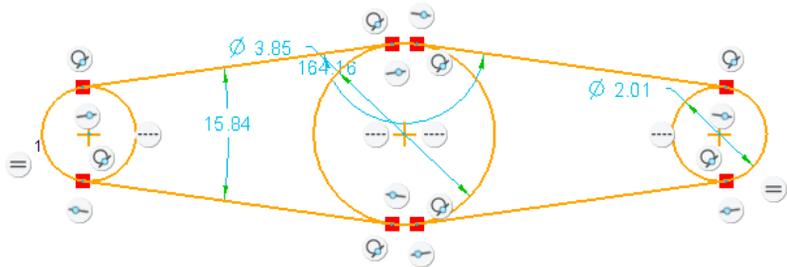

Figure 3-38 Tangent lines drawn on the circles
5. Similarly, using the **Line Tangent** tool, draw the other tangents through the bottom-most points of the left, middle, and right circles, as shown in Figure 3-38.